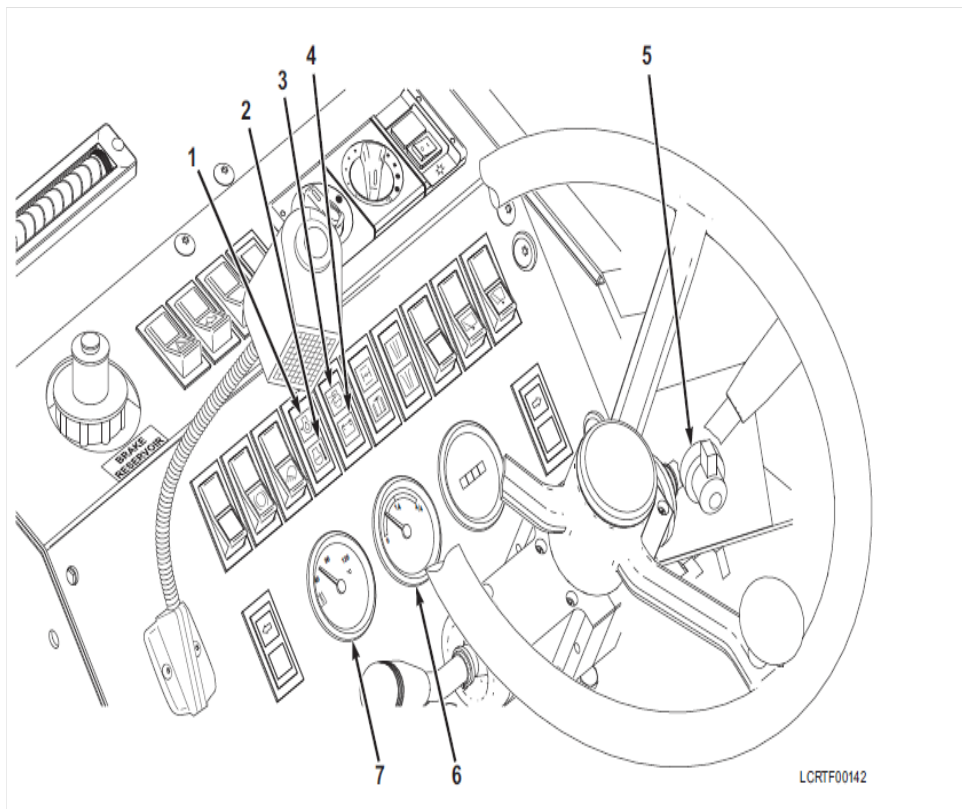

Figure 3-59
d. Turn the ignition switch clockwise to the ign/start position (see Figure 3-59, Item 5) . Release the switch as soon as the engine starts. If the engine fails to start on the first try, wait until engine and starter have come to a complete stop. Then, return the switch to the off position before attempting to start engine again.
e. After engine starts, return accelerator pedal to idle position for approximately 3 minutes. Ensure that readings on gauges (see Figure 3-59, Item 6 and 7) are within normal operating ranges and warning lights (see Figure 3-59, Items 1, 2, 3, and 4) are not illuminated before moving vehicle.